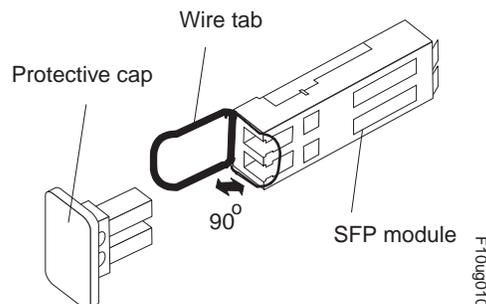

Figure 70. Unlocking the SFP module latch - wire variety
- For SFP modules that contain wire tabs, unlock the SFP module latch by pulling the wire latch outward 90°, as shown in Figure 70.